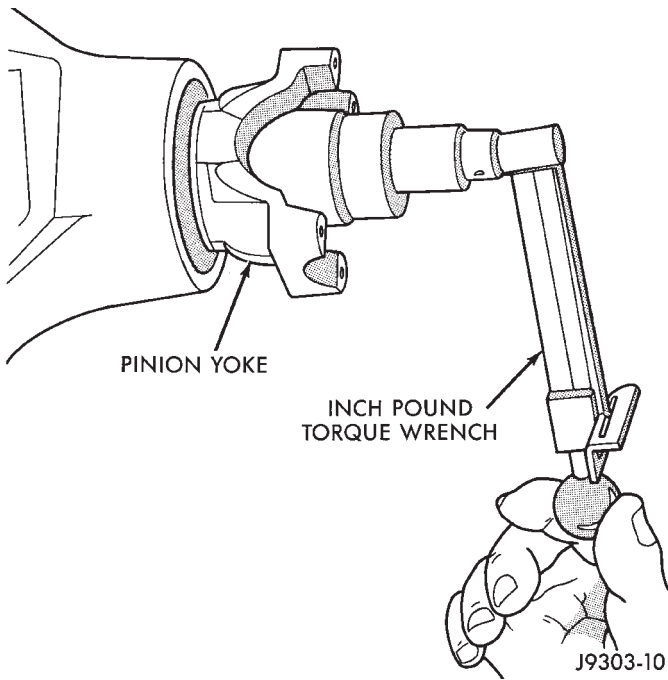

Fig. 35 Check Pinion Gear Rotating Torque
(14) Using Yoke Holder 6719, crush collapsible spacer until bearing end play is taken up.
(15) Slowly tighten the nut in 6.8 N·m (5 ft. lbs.) increments until the desired rotating torque is achieved. Measure the rotating torque frequently to avoid over crushing the collapsible spacer (Fig. 35).
(16) Check bearing rotating torque with an inch pound torque wrench (Fig. 35). The torque necessary to rotate the pinion gear should be: